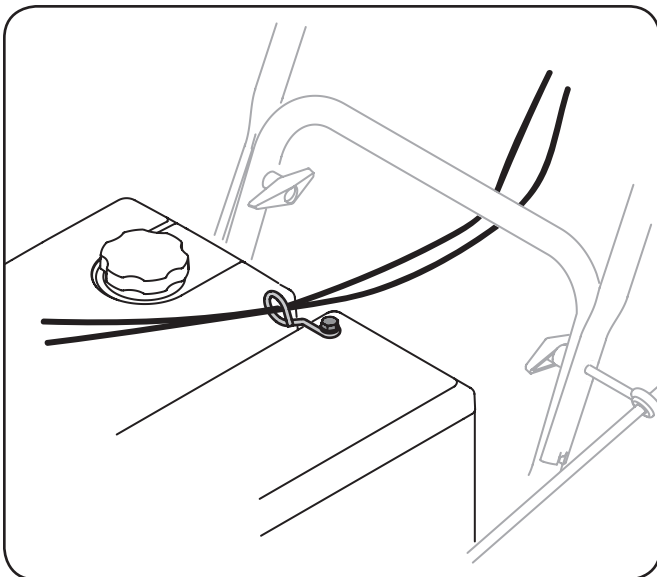

Figure 3-5
- Check that the chute cables are properly routed through the cable guide on top of engine shroud. See Figure 3-5.